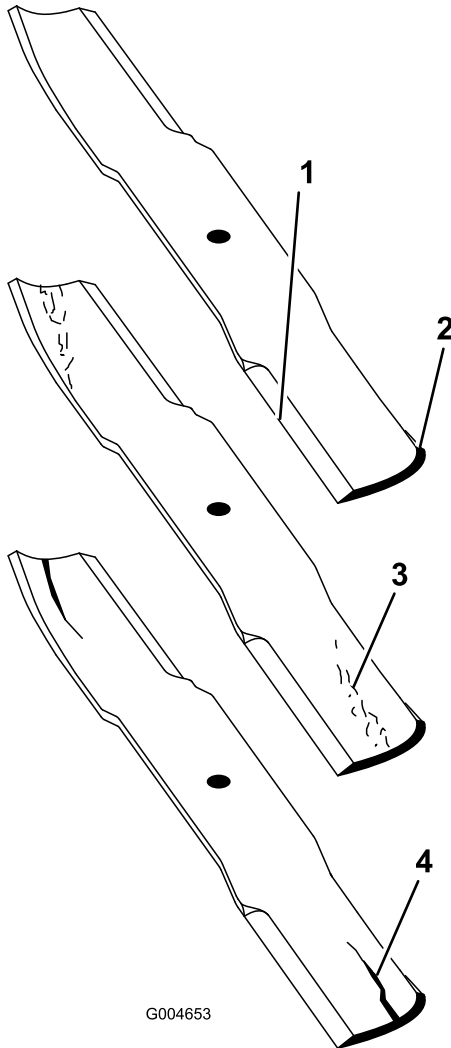

Figure 19
1. Inspect the cutting edges (Figure 19). If the edges are not sharp or have nicks, remove and sharpen the blades. Refer to Sharpening the Blades.
2. Inspect the blades, especially the sail area (Figure 19). If you notice any damage, wear, or a slot forming in this area (Figure 19), immediately install a new blade.